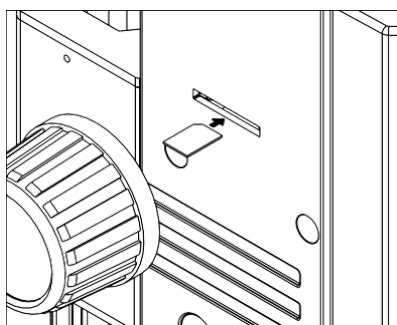

Fig. 11
- 1) When the camera is on, press the camera button ② once to take one photo.
- 2) When the camera is on, press the video button ③ to start a recording, and press the button again to stop recording.
- 3) Connect an HDMI cable to the HDMI interface ④ to send images to an HDMI-compatible monitor.
- 4) Connect USB devices (i.e. mouse or USB stick drive) to the USB interface ⑤.
- 5) Connect a mini USB cable to the MINI interface ⑥ to output the image.
- 6) Insert an SD card as shown, facing the chamfer corner to the left, and insert it completely. (See Fig. 11)